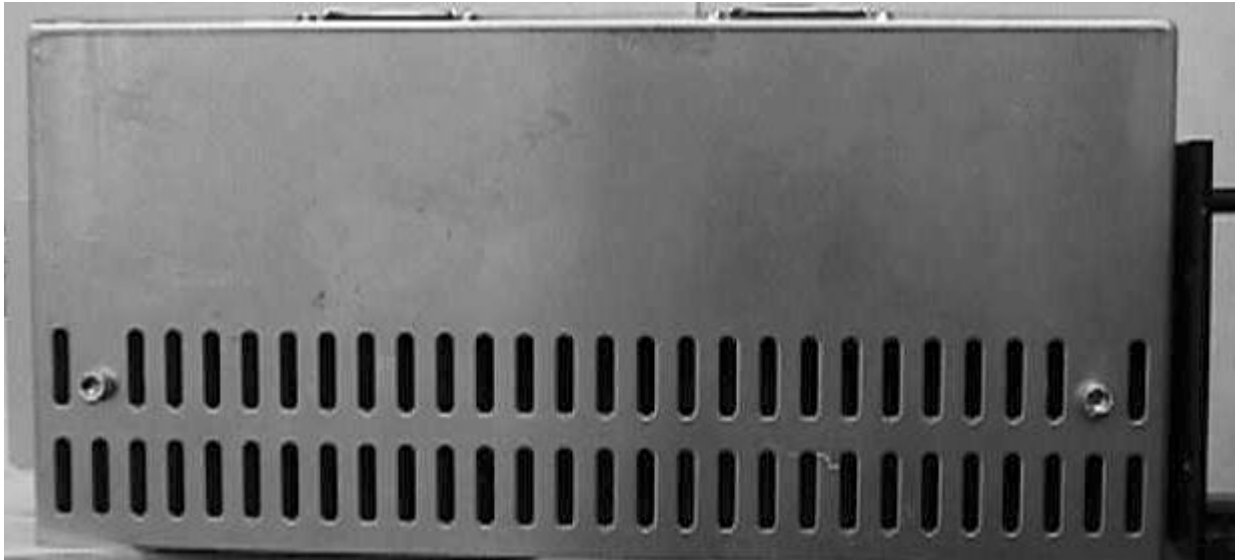

Figure 1: Assembly connected to the EX7100 Terminal
- 3) Refer to Figure 1 (overleaf) and remove the 2x M6 socket cap screws and washers from the Fan Box Assembly using the Short arm Hex wrench. The removed screws and washers should be put to one side for future replacement.